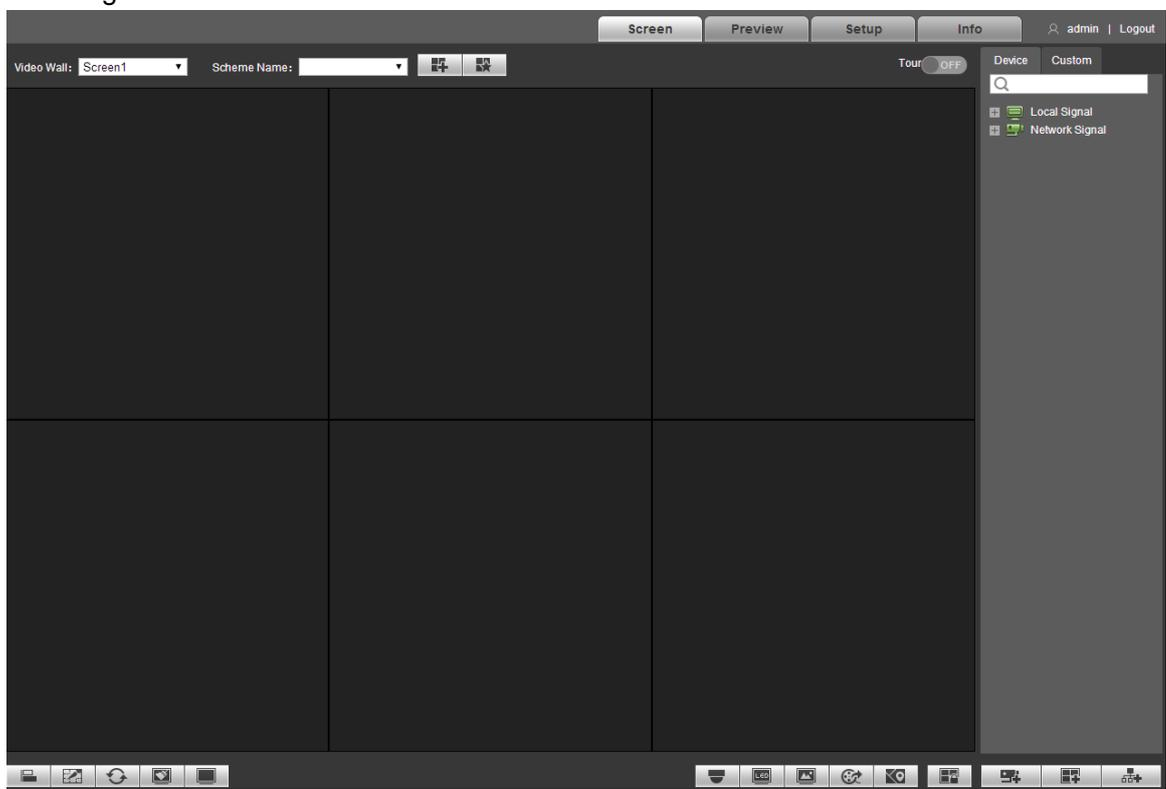

Figure 3-3
**Step 4** Input username and password, and click "Login" to login the system. The system displays Figure 3-3.